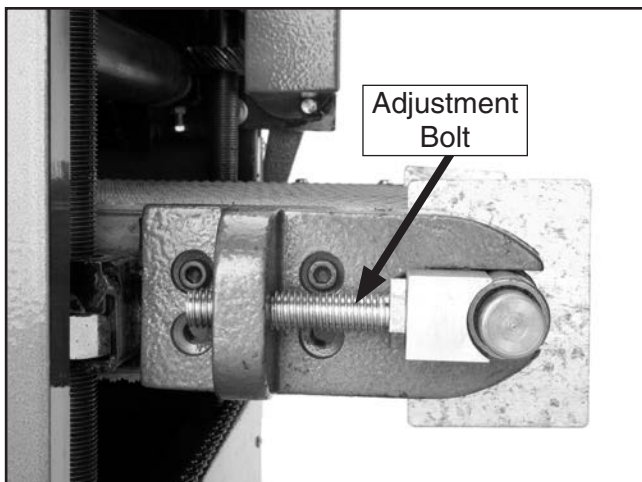

Figure 28. One side of conveyor tensioning & tracking controls (guard removed for clarity).
1. Use a magic marker, correction fluid, or fingernail polish to mark the front of the conveyor tensioning bolt on both sides (**Figure 28**). This step will aid you in keeping track of the rotations as you turn the bolts, so they remain as even as possible.